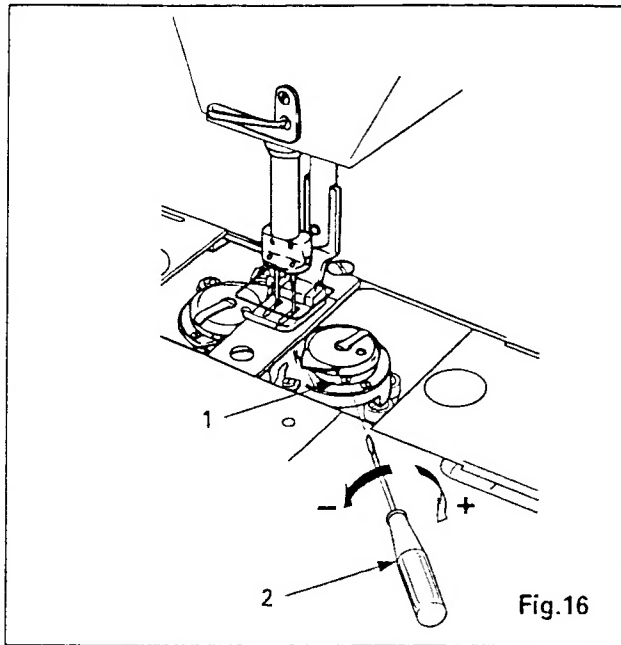

Fig.16
Turn machine pulley over toward you until bobbin thread tension spring screw (1) is accessible with a small screwdriver (2) as shown in Fig. 16 and turn tension spring screw (1) with screwdriver (2), as required.